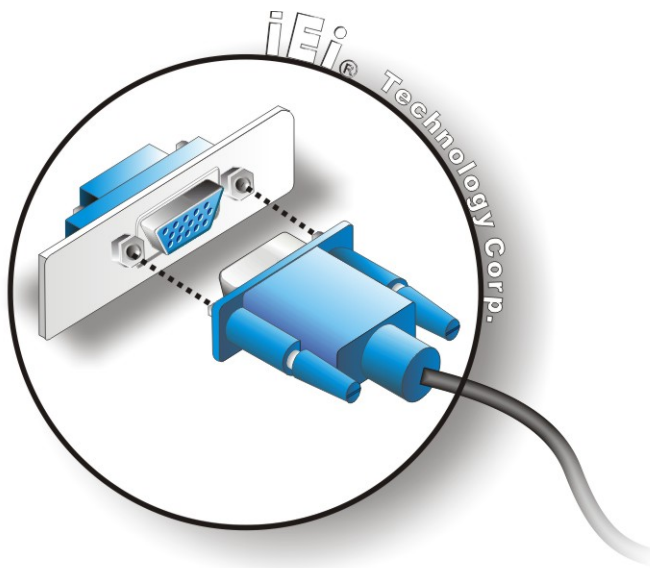

Figure 4-14: VGA Connector
- Step 3:** Insert the VGA connector. Once the connectors are properly aligned with the insert the male connector from the VGA screen into the female connector on the UIBX-200-R11/Z510P. See Figure 4-14.